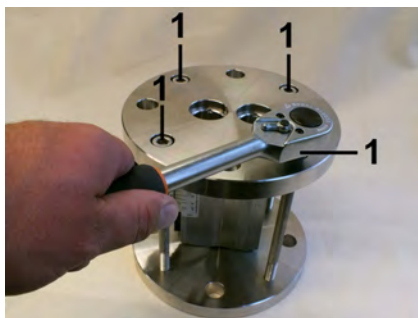

Fig. 71: Tighten flange connecting bolts (outlet)
21. ▶ Tighten the flange connecting bolts evenly and crosswise (Fig. 71/1), using a torque wrench, observing the proper torque (↪ Chapter 11.1 “Tightening torque” on page 83).